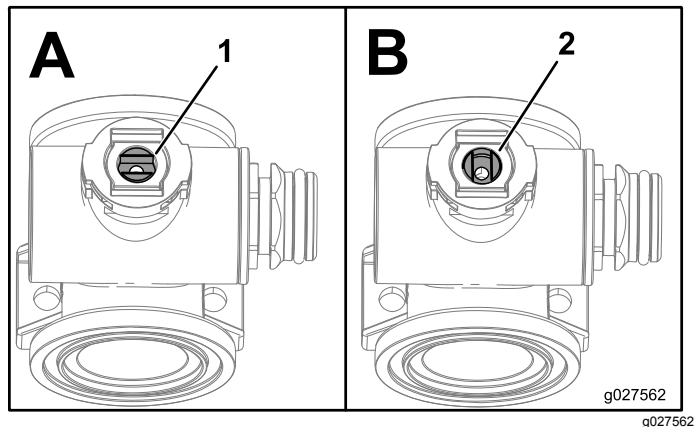

Figure 105
1. Position the valve stem so that it is in the closed position (B of Figure 105).
- Turn the valve stem so that the ball is in the open position (A of Figure 105).
- Turn the valve-stem assembly so that the valve is closed (B of Figure 105).